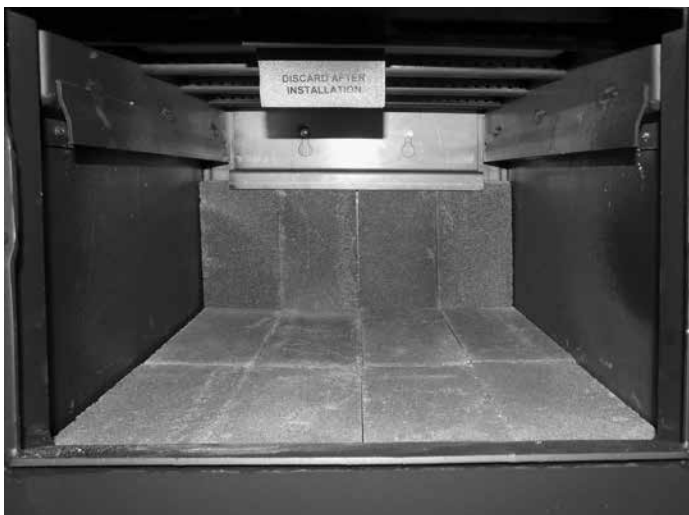

Figure 27: Floor bricks laying lengthwise.
3. Place the floor bricks as shown in Figure 27.